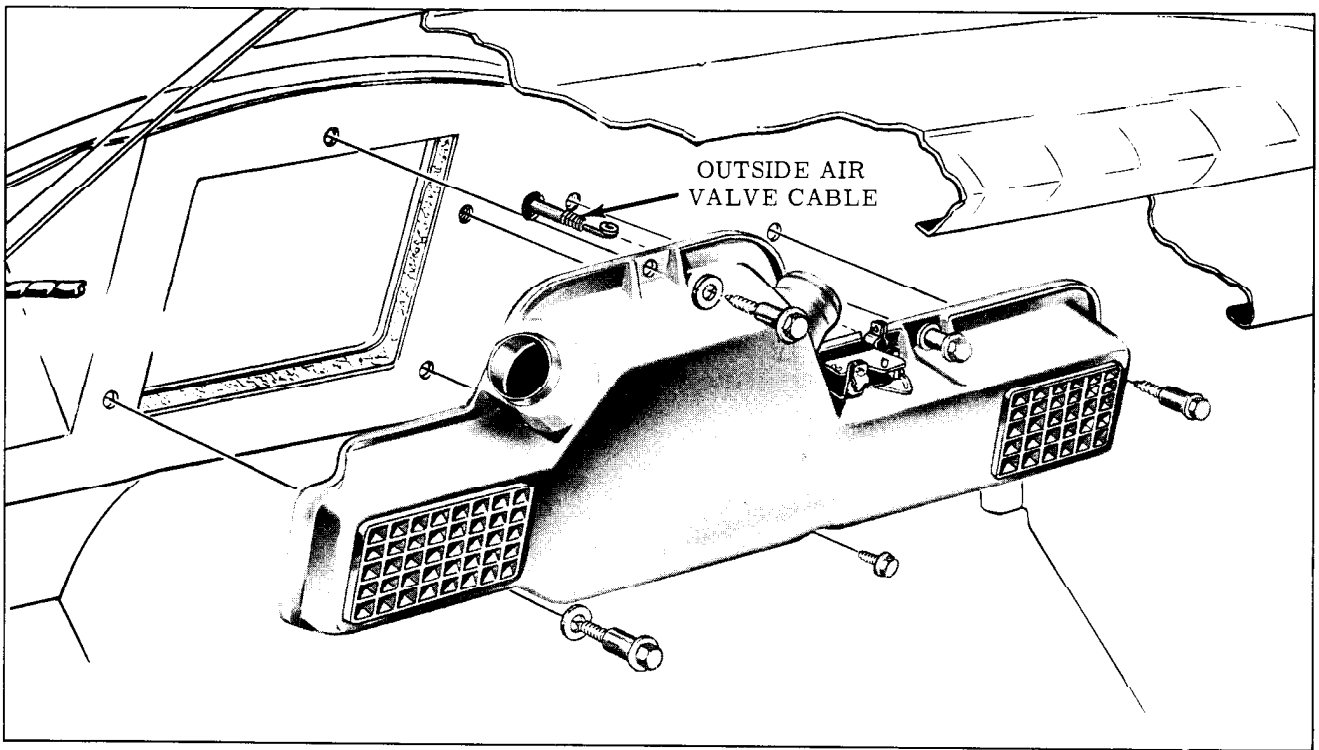

Fig. 14-6 Heater Distributor Assembly
2. Remove the heater case to cowl attaching screws. (Fig. 14-6)